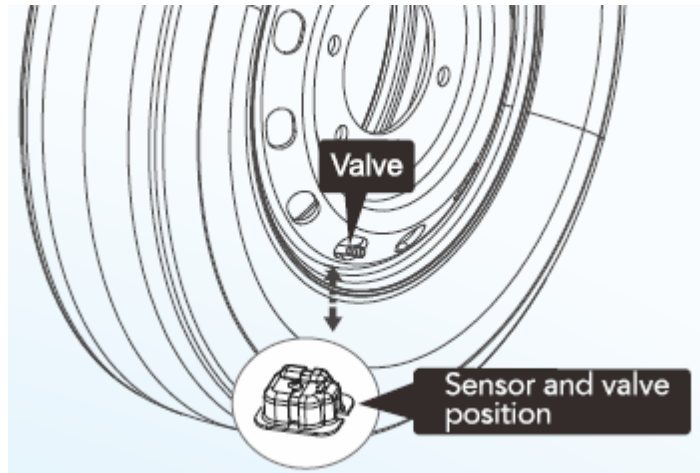

Fig. 4.17
6. Put back the rubber tire on the tire rim, make sure the sensor is next to the tire valve (fig. 4.17).